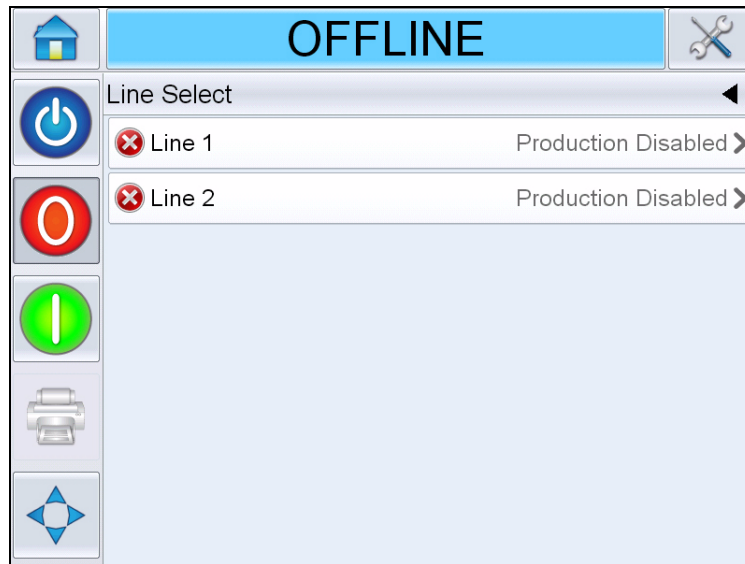

Figure 6-16: Line Select
- a. Select *Line 1* (see Figure 6-16).